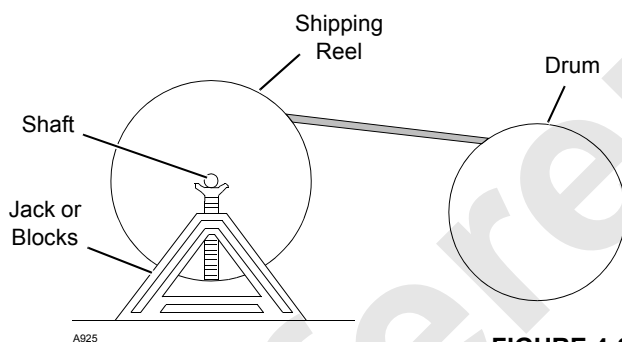

FIGURE 4-60
1. Mount the wire rope shipping reel on a shaft supported at both ends by jacks or blocks (Figure 4-60).